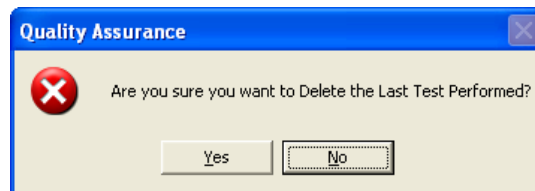

Figure 5-30
6. To delete the latest test on the current screen, click the **Delete Last Test** button or press *Alt+L*. This function is not accessible when **Today's Tests** is selected. The screen appears as shown in Figure 5-30. Click the **Yes** button or press the *Y* key to confirm the deletion. Otherwise, click the **No** button or press the *N* key.
7. To delete *all* the tests on the current screen, click the **Delete** button or press *Alt+D*. You will be prompted to confirm the deletion as shown in Figure 5-30 above.